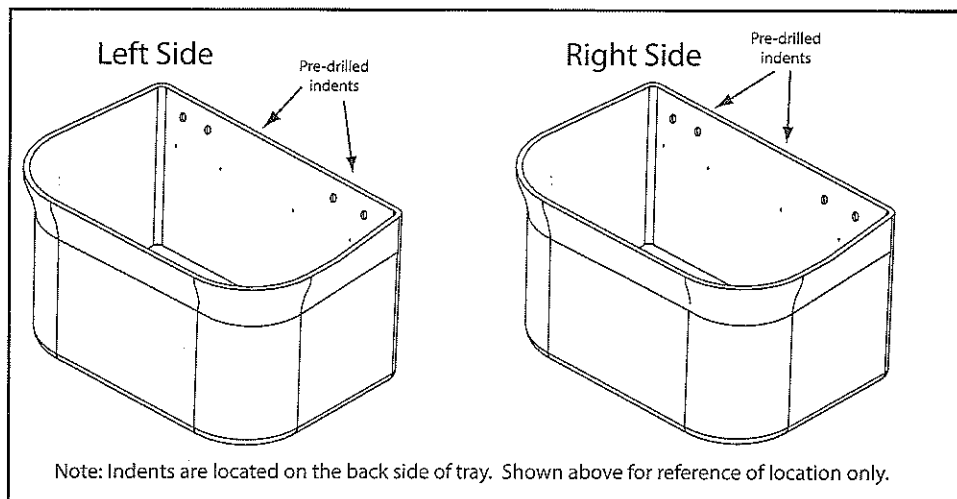

Figure 1.
3. Locate the four indents provided on the back side of the tray slightly below the existing holes. See Figure 1 below to identify the two indents that will need to be drilled out depending on a left hand or right hand application.